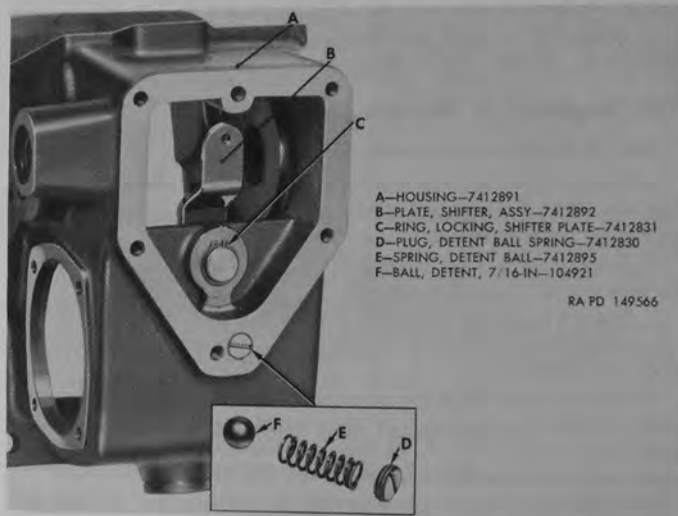

Figure 90. Shifter plate assembly installed in housing.
- (1) Remove detent ball spring plug, detent ball spring, and detent ball (fig. 90).
- (2) Using needle-nose snap ring pliers, remove shifter plate locking ring, then remove shifter plate assembly from inside housing.
a. From inside housing (L), position shifter plate assembly (SS) with plate shaft through hole in housing. Using snap ring pliers, install shifter plate locking ring (RR) in groove in shaft (fig. 90)
b. Assemble $\frac{7}{16}$ -inch detent ball (fig. 90) detent ball spring, and detent ball spring plug in poppet well in housing. Tighten plug firmly with screwdriver.